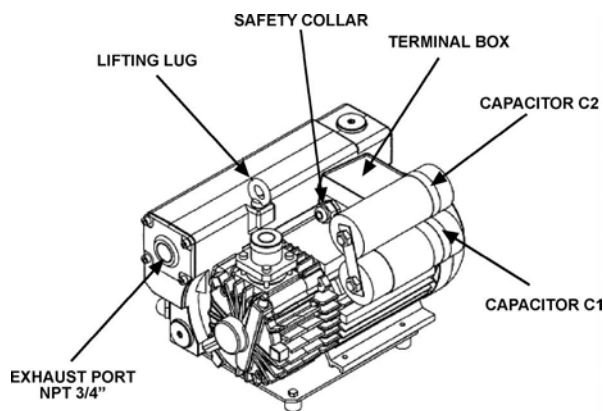

Figure 1: Vacuum Pump
1. Refer to Figure 1. Locate the terminal box on the top of the pump, and remove the two screws that hold the cover in place.